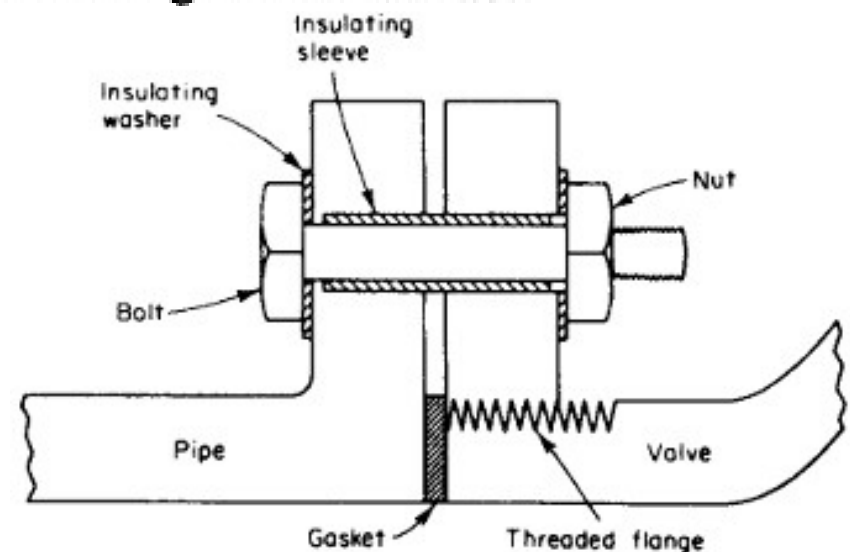

Figure 3-5 Proper insulation of a flanged joint.
3. Insulate dissimilar metals wherever practicable. It is important to insulate *completely* if possible. A common error in this regard concerns bolted joints such as two flanges, like a pipe to a valve, where the pipe might be steel or lead and the valve a different material. Bakelite washers under the bolt heads and nuts are assumed to insulate the two parts, yet the shank of the bolt touches both flanges! This problem is solved by putting plastic tubes over the bolt shanks, plus the washers, so the bolts are isolated completely from the flanges. Figure 3-5 shows proper insulation for a bolted joint. Tape and paint to increase resistance of the circuit are alternatives.
6. Avoid threaded joints for materials far apart in the series. As shown in Fig. 3-5, much of the effective wall thickness of the metal is cut away during the threading operation. In addition, spilled liquid or condensed moisture can collect and remain in the thread grooves. Brazed joints are preferred, using a brazing alloy more noble than at least one of the metals to be joined. Welded joints using welds of the same alloy are even better.